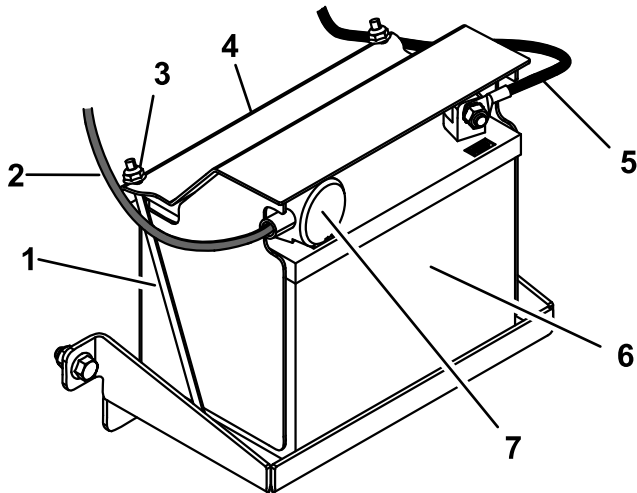

Figure 27
1. Place the battery on the tray and secure it using the battery cover, 2 securing rods, and 2 nuts (Figure 27).
4. Slide the red terminal boot onto the positive battery post (Figure 27).